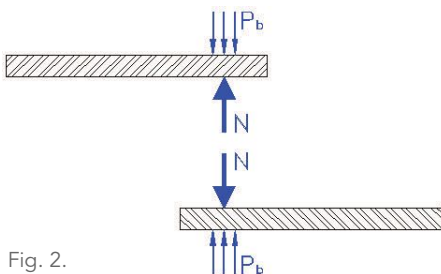

Fig. 2.
The pretensioning force (P_b) creates a normal force (N) between the connected materials. (Figure 2). AISC defines the minimum bolt pretensioning force as approximately 0.7 times the tensile strength (F_u) of the bolt material times the gross cross-sectional area (A_g) of the bolt. (See AISC *Specification* Table J3.1)